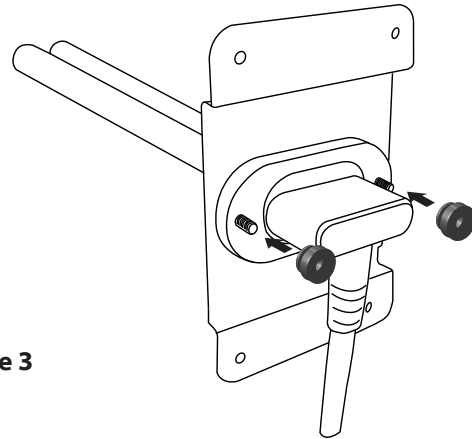

Figure 3
- 3) Secure the lamp assembly to the magnetic metal base with the two thumb screws provided - **DO NOT OVERTIGHTEN!** - See figure 3